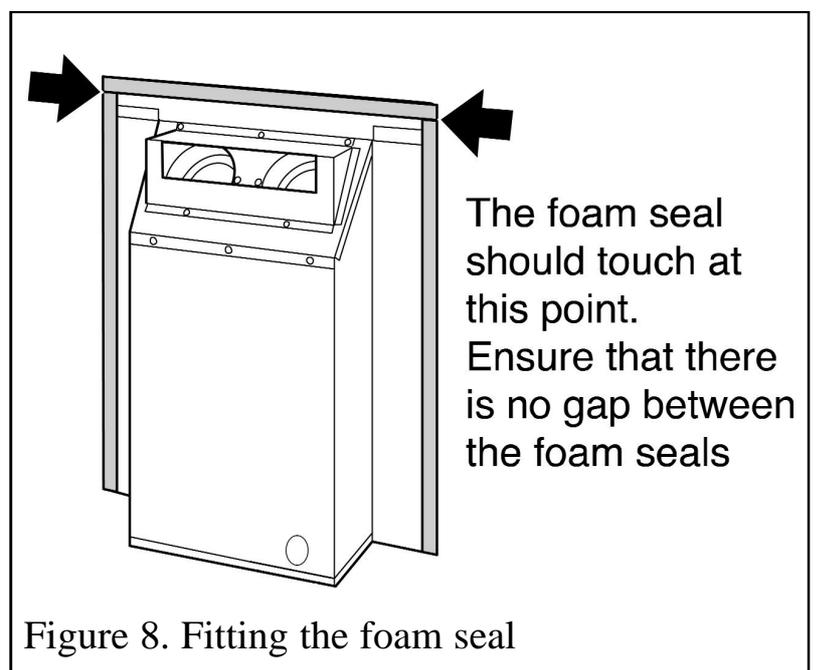

Figure 8. Fitting the foam seal
**flanges:** There is a length of self adhesive foam seal supplied with the fire. This will need to be fitted to the outer rear edges of the side and top flanges of the convector box. Cut the foam seal to the required length. Be careful not to stretch the seal when measuring. Remove the protective backing from the foam seal and fit this to the rear of the convector box flange (See figure 8).
There is a length of self adhesive foam seal supplied with the fire. This will need to be fitted to the outer rear edges of the side and top flanges of the convector box. This will be fitted over the flanges of the fascia. **It is therefore important to ensure that the fascia is positioned correctly before fitting the foam seal.** (See fascia fitting guide supplied with the fascia). Cut the foam seal to the required length. Be careful not to stretch the seal when measuring. Remove the protective backing from the foam seal and fit this to the rear of the convector box flange (See figure 8).